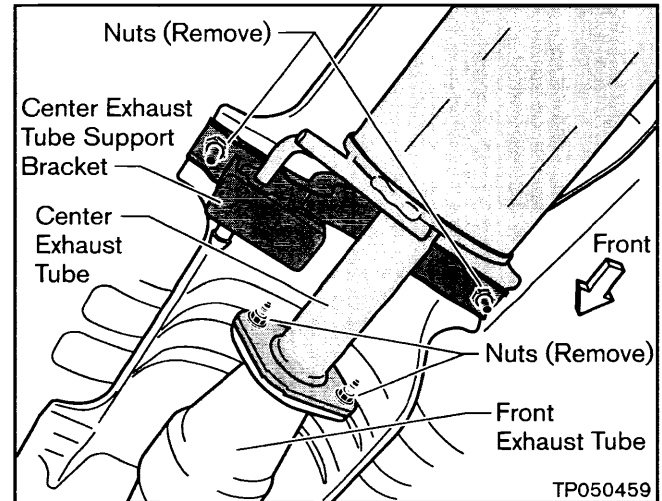

Figure 6
- a. Remove two Nuts that secure the Center Exhaust Tube to the Front Exhaust Tube (see Figure 6).
- b. Remove two Nuts and remove the Center Exhaust Tube Support Bracket (see Figure 6).